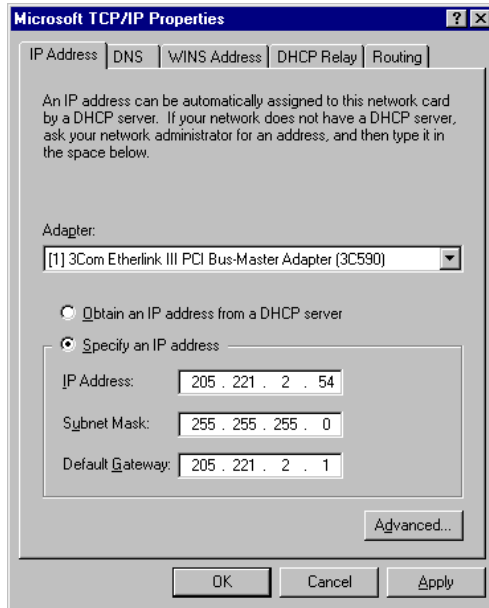

Figure 2. TCP/IP Configuration
2. Click the **Protocols** tab, then double click on **TCP/IP Protocol** from the drop-down list box. The **TCP/IP Protocol** window appears (see Figure 2), where you configure the IP Address, Subnet Mask, and Default Gateway (router).